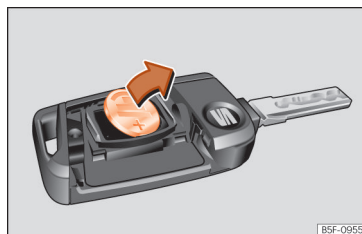

Fig. 84 Vehicle key: removing the battery.
- Extract the battery from the compartment using a suitable thin object »» Fig. 84.
- Place the new battery in the compartment as shown »» Fig. 84, pressing in the opposite direction to that shown by the arrow »» ❷.